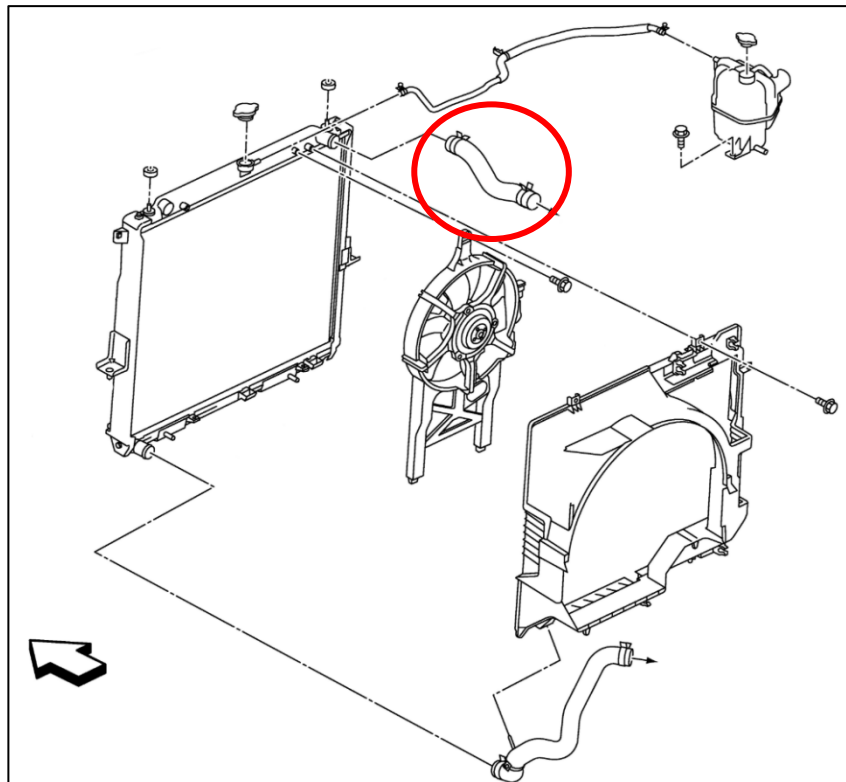

Figure 4
9. After coolant is drained, remove the OE Upper Radiator Hose, circled below in *Figure 4*. Retain the Hose Clamps as they will be reused.